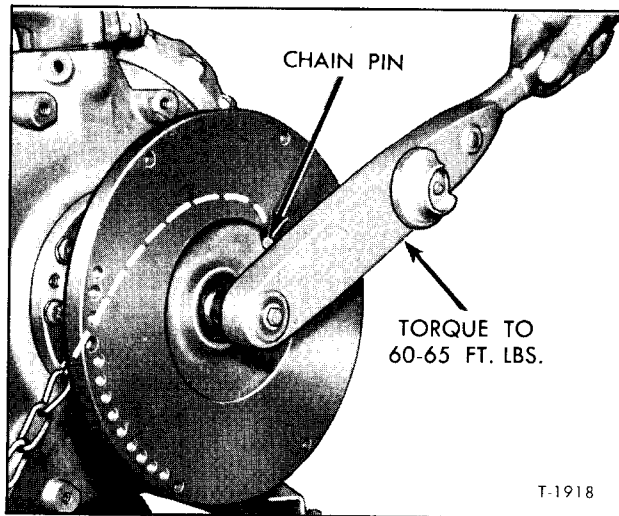

Figure 63—Tightening Flywheel Bolt (Typical)
1. Remove pilot bearing (31) from compressor flywheel, using a conventional bearing puller tool.
2. Using proper size wrench socket, remove bolt (32) and flat washer (33) which attach flywheel (34) to compressor shaft (fig. 63). Remove flywheel and flywheel key (35). Flywheel can be resurfaced as directed later. Pilot bearing can also be checked as directed under "Inspection and Repair."
NOTE: Flywheel can be retained when loosening or tightening flywheel bolt using a large cotter pin, chained to compressor platform (fig. 63). Insert pin from back side.
1. Insert drive key (35) into slot of compressor crankshaft, then with flywheel aligned, posi-
tion flywheel to compressor. Install flywheel flat washer (33) and special bolt (32). Tighten bolt to 60 to 65 ft.-lbs. torque in manner shown in figure 63.
2. Pack cavity around head of flywheel attaching bolt with special grease recommended for propeller shaft in LUBRICATION (SEC. 13); then press pilot bearing (31) evenly into flywheel.